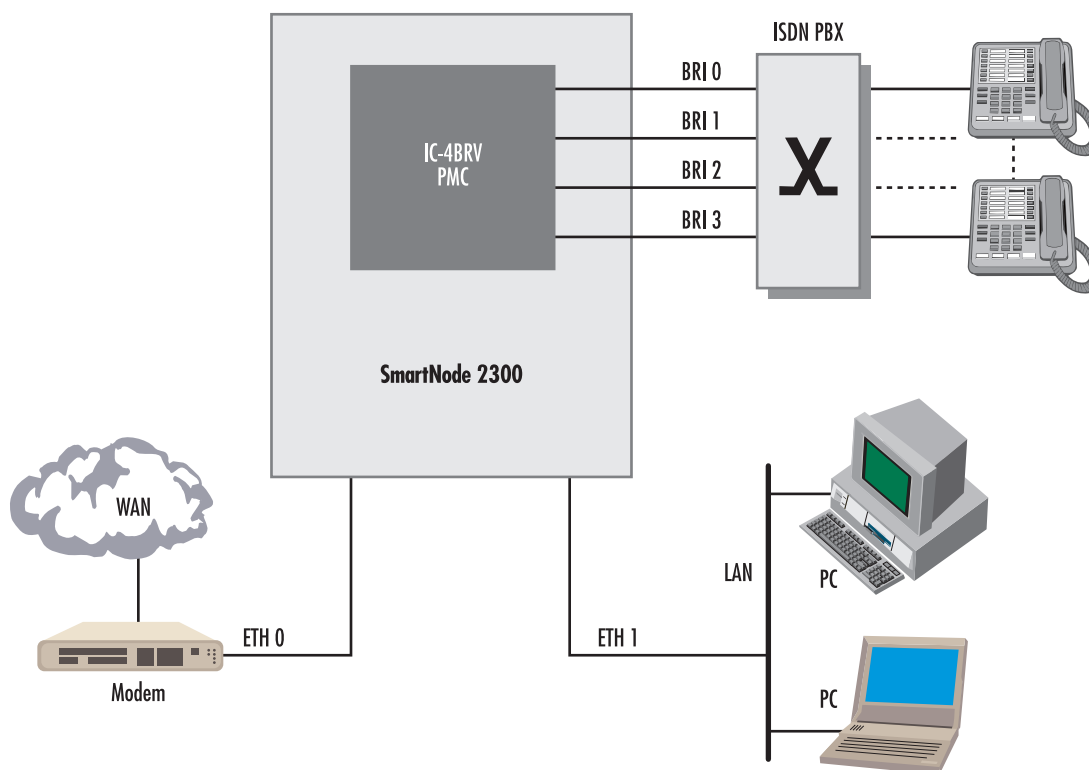

Figure 33. SmartNode 2000-Series device connected to a PBX via four BRI ports
In figure 33 the SmartNode 2000 series with an optional IC-4BRV interface card installed is used as a voice gateway and IP router in a company branch office.
- Figure 33 on page 58